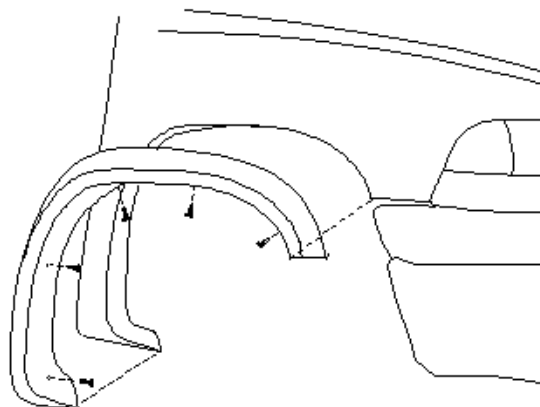

FIGURE 2
- (A) Drill five 3/16" holes in the front flare using indents formed into the plastic as a guide. See FIGURE 2.
- (B) Starting at the top center hole, attach flare to vehicle, using drill-tip screws. **NOTE: Holes drilled in flare will line up with factory holes.** See FIGURE 2.